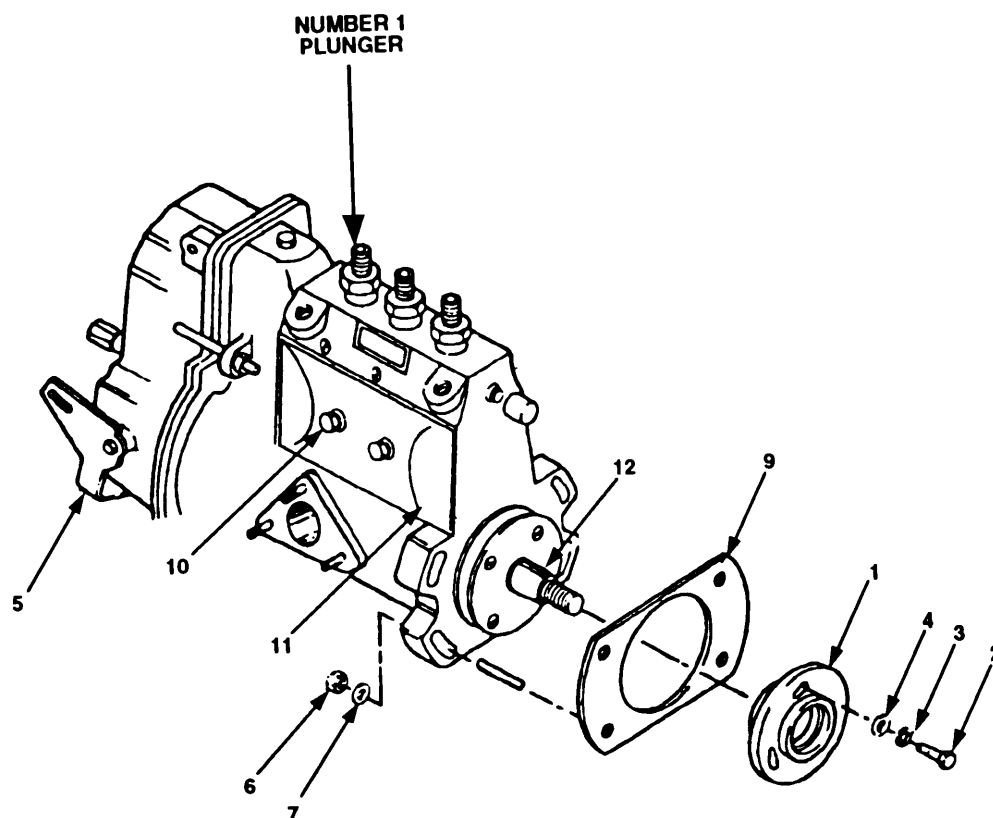

Figure 5-5 Fuel Injection Pump Maintenance.
- a. Place clean shop rag inside gear housing, so that rag is against fuel injection pump drive gear (figure 5-5, 1) and prevents objects from falling into gear hose.
- b. Remove two of three bolts (2), washers (3) and spacers (4) that secure fuel injection pump drive gear (1) to fuel injection pump (5).